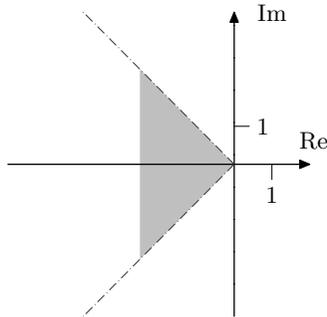

Figure 3.1c
- d) Assume that we use proportional control, that is,  $F(s) = K$ . How large gain,  $K$ , can we select if we want all poles of the closed loop system to be in the area shown in Figure 3.1c?
grey area in Figure 3.1c. Poles in this region corresponds to an overshoot of less than 5% (the overshoot may also be affected by the zeros).